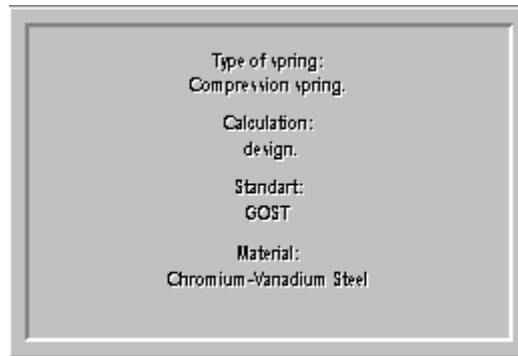

Fig. 4.2 Window "General Parameters"
*General Parameters* window is used to show type of spring, type of calculation, standard and material (for disk spring - type) of spring (Fig. 4.2).